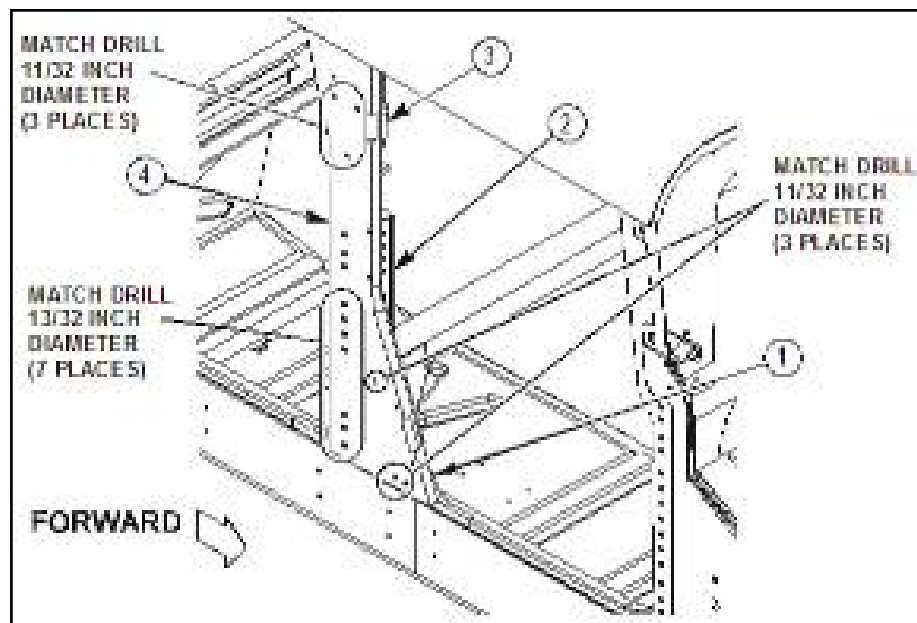

Figure 19a.
11. Clamp right B-pillar plate (4) to vehicle B-pillar (2) and match drill seven 13/32 inch diameter holes. Refer to figure 19a.
12. Match drill three 11/32 inch diameter holes through right B-pillar plate (4) and B-pillar sail panel (1). Refer to figure 19a.
13. Match drill three 11/32 inch diameter holes through right B-pillar plate (4) and right turret support tube bracket subassembly (3). Refer to figure 19a.